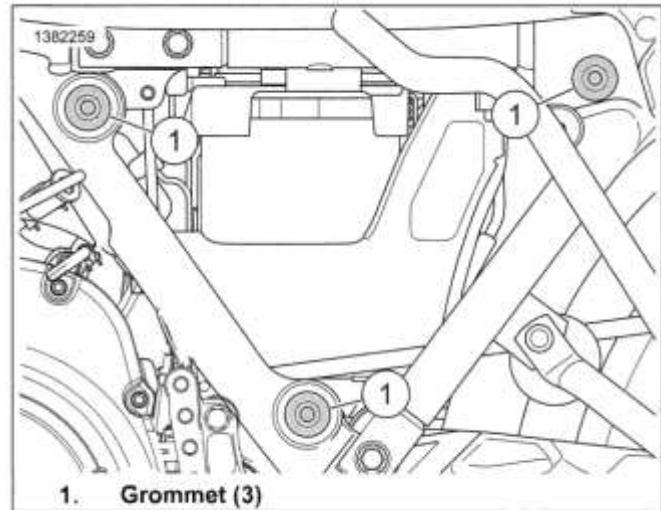

Figure 3-61. Left Side Cover
1. See Figure 3-61. Pull side cover away to release mounting studs from grommets (1).